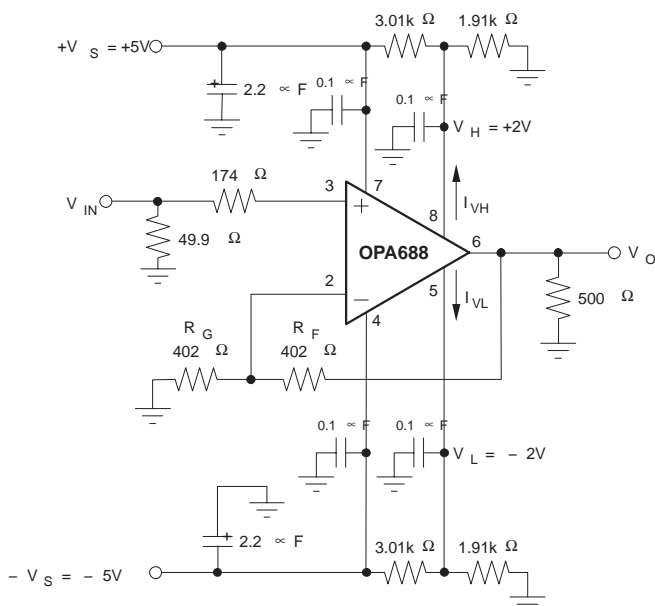
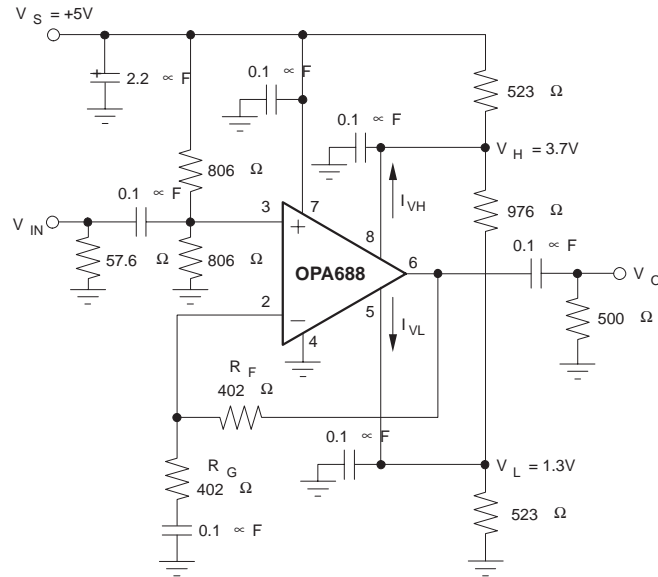
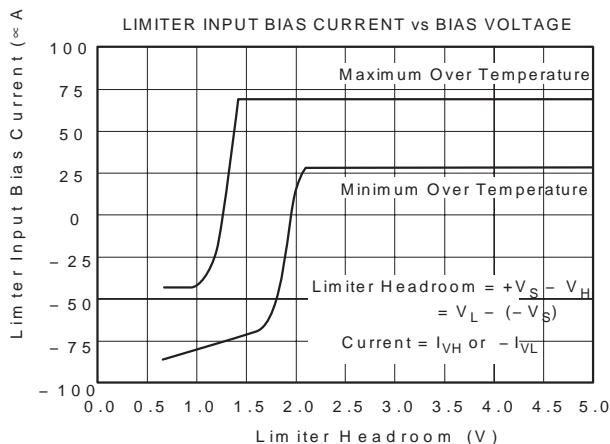

Figure 30. DC-Coupled, Dual Supply Amplifier
Figure 31. AC-Coupled, Single Supply Amplifier
Figure 37. Limiter Bias Current vs Bias Voltage
- I_{VH} (V_H bias current) is positive, and I_{VL} (V_L bias current) is negative, under these conditions. See Note 3, Figure 31 and Figure 37.
Figure 30 shows a non-inverting gain amplifier for dual-supply operation. This circuit was used for AC characterization of the OPA688, with a 50- Ω source, which it matches, and a 500- Ω load. The power-supply bypass capacitors are shown explicitly in Figures 30 and 31, but will be assumed in the other figures. The limiter voltages (V_H and V_L) and their bias currents (I_{VH} and I_{VL}) have the polarities shown.
Figure 31 shows an AC-coupled, non-inverting gain amplifier for single +5V supply operation. This circuit was used for AC characterization of the OPA688, with a 50W source, which it matches, and a 500- Ω load. The power-supply bypass capacitors are shown explicitly in Figures 30 and 31, but will be assumed in the other figures. The limiter voltages (V_H and V_L) and their bias currents (I_{VH} and I_{VL}) have the polarities shown. Notice that the single-supply circuit can use three resistors to set V_H and V_L , where the dual-supply circuit usually uses four to reference the limit voltages to ground.
The OPA688 is nominally specified for operation using either ± 5 -V supplies or a single +5-V supply. The maximum specified total supply voltage of 12 V allows reasonable tolerances on the supplies. Higher supply voltages can break down internal junctions, possibly leading to catastrophic failure. Single-supply operation is possible as long as common mode voltage constraints are observed. The common mode input and output voltage specifications can be interpreted as a required headroom to the supply voltage. Observing this input and output headroom requirement will allow design of non-standard or single-supply operation circuits. Figure 31 shows one approach to single-supply operation.
When pins 5 and 8 are left open, V_H and V_L go to the Default Voltage Limit; the minimum values are in the Specifications. Looking at Figure 37 for the zero bias current case will show the expected range of $(V_S - \text{default limit voltages}) = \text{headroom}$.
When the limiter voltages are more than 2.1V from the supplies ($V_L \times -V_S + 2.1 \text{ V}$ or $V_H + V_S - 2.1 \text{ V}$), you can use simple resistor dividers to set V_H and V_L (see Figure 30). Make sure you include the Limiter Input Bias Currents (Figure 37) in the calculations (i.e., $I_{VL} \geq -50 \mu\text{A}$ out of pin 5, and $I_{VH} \leq +50 \mu\text{A}$ out of pin 8). For good limiter voltage accuracy, run at least 1-mA quiescent bias current through these resistors.
When the limiter voltages need to be within 2.1V of the supplies ($V_L - V_S + 2.1 \text{ V}$ or $V_H \times +V_S - 2.1 \text{ V}$), consider using low impedance buffers to set V_H and V_L to minimize errors due to bias current uncertainty. This will typically be the case for single supply operation ($V_S = +5\text{V}$). Figure 31 runs 2.5 mA through the resistive divider that sets V_H and V_L . This keeps errors due to I_{VH} and $I_{VL} < \pm 1\%$ of the target limit voltages.